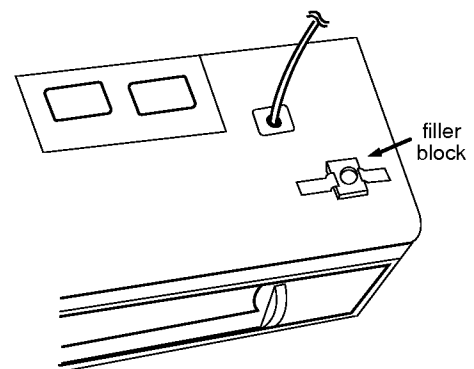

**Figure 23**
**NOTE:** If the bottom of the upper cabinet is recessed 3/4" or more, you will need 2"x2" filler blocks (not included) to provide additional support for the bolts. See Figure 23.